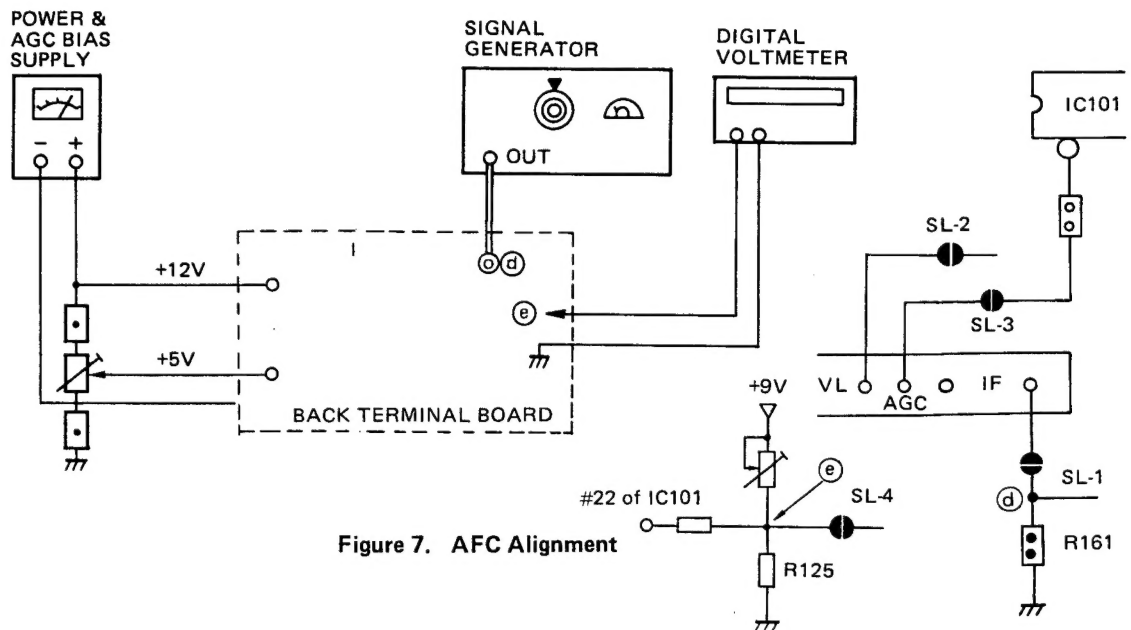

Figure 7. AFC Alignment
- GENERAL** ..... Refer to Figure 7 for test equipment connection.
- PRELIMINARY STEPS** ..... 1. Disconnect the solder links SL-1, SL-2, SL-3, and SL-4 (Ⓢ) See Figure 7) on the foil side of the Back Terminal Board.
2. Supply +12 volts to the Back Terminal Board. (See Figure 7.)
- DVM** ..... Connect to the resistor R125 (Ⓢ in Figure 7) and ground.